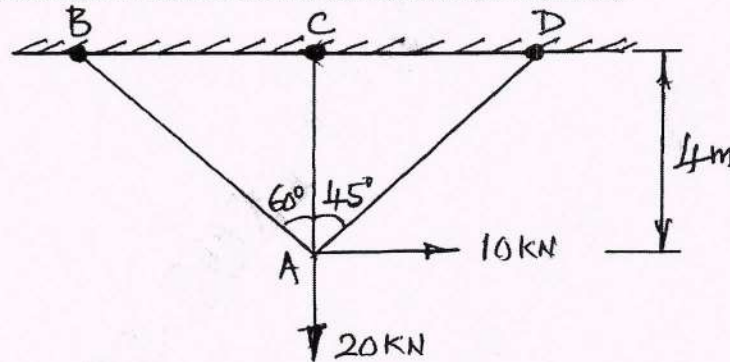

Fig.Q8
- 8 Analyze the truss shown in Fig.Q8 by flexibility matrix method. Choosing the force in member AD as redundant. Assume AE as constant for all members.